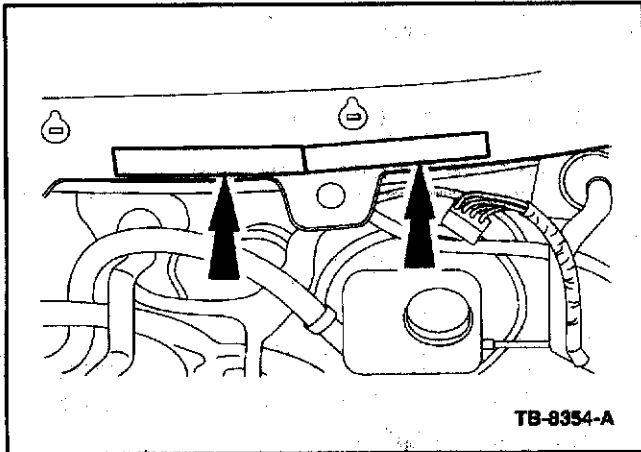

Figure 8 - Article 06-14-10
11. Place two (2) of the cut pieces of the PVC soft foam adhesive stripes on the metal body surface over the transaxle area. The two ends need to touch, do not allow any gap between the two ends. (Figure 8)